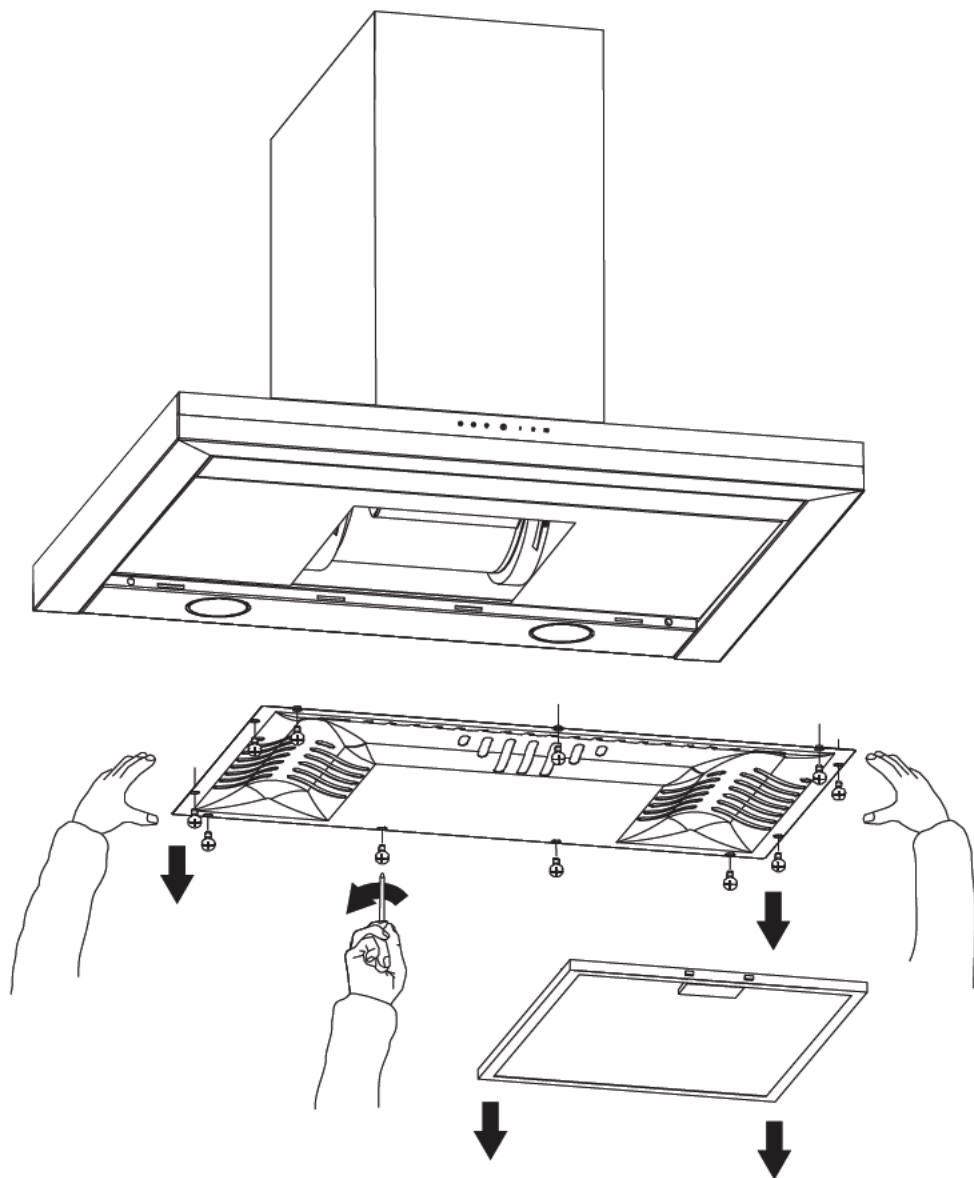

Fig.4
- Remove filters and easy clean plate from hood as shown in Fig.4.